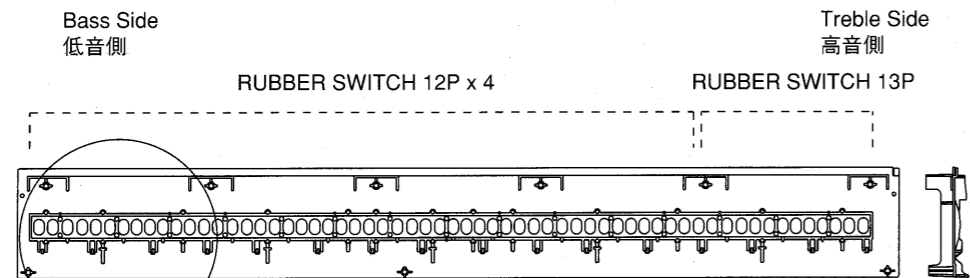
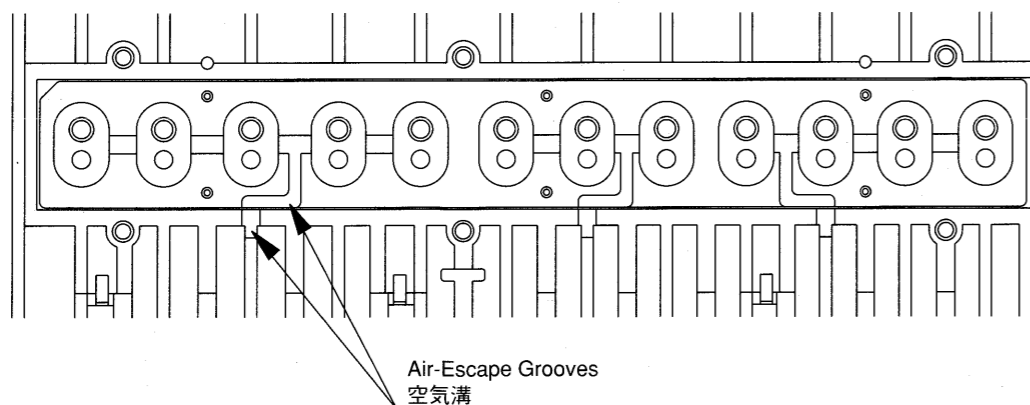

Fig.1
Fig.2
1) First turn the chassis upside down, making sure that the right and left sides are not positioned opposite one another. Next, as shown in Fig. 1, place 4 pieces of RUBBER SWITCH 12P in turn, on the chassis from the left end (the bass side of the keyboard), aligning them with the long holes provided on the chassis. At this point, be sure that the air-escape grooves of each RUBBER SWITCH are positioned at the respective air-escape grooves on the chassis. (See Fig. 2.)
1) まず、シャーシを左右が逆にならないように裏返しにします。次に、Fig.1に示すように左側(鍵盤の低音側)よりRUBBER SWITCH 12Pを長穴にあわせて順に4ヶおいていきます。この際、RUBBER SWITCHとシャーシの空気溝の位置が合うように注意して下さい。(Fig.2参照のこと) 右側(高音側)にはRUBBER SWITCH 13Pを同様におきます。